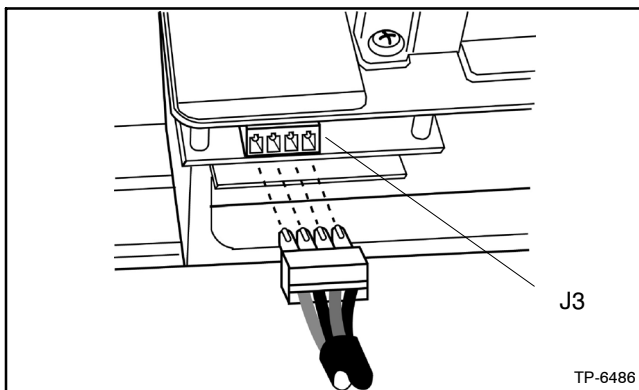
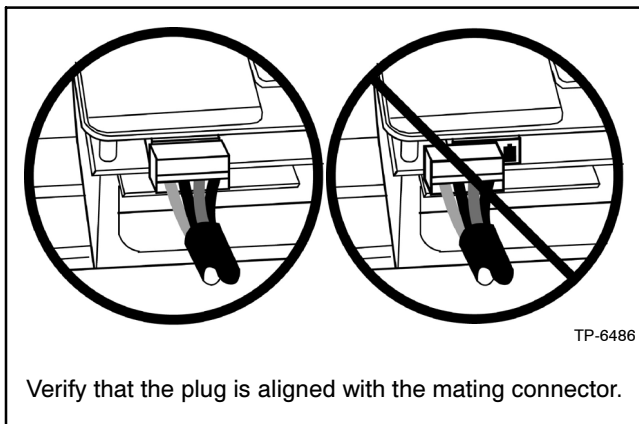

Figure 2-40 Communication Terminal J3 on Transfer Mechanism
Figure 2-41 Connecting Communication Cable
1. Install the green plugable connector into terminal J3 on the transfer mechanism. See Figure 2-40. Refer to Figure 2-41 for the correct position of the cable.